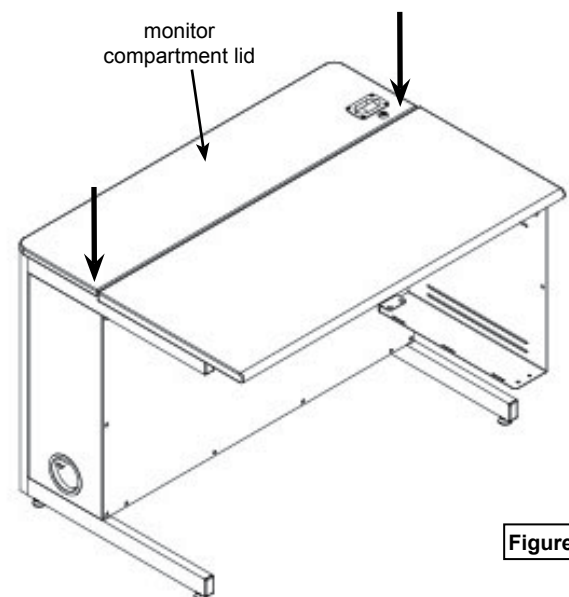

Figure 7B
1. Place the keyboard and mouse in the compartment tray under the monitor. **Figure 7B.**